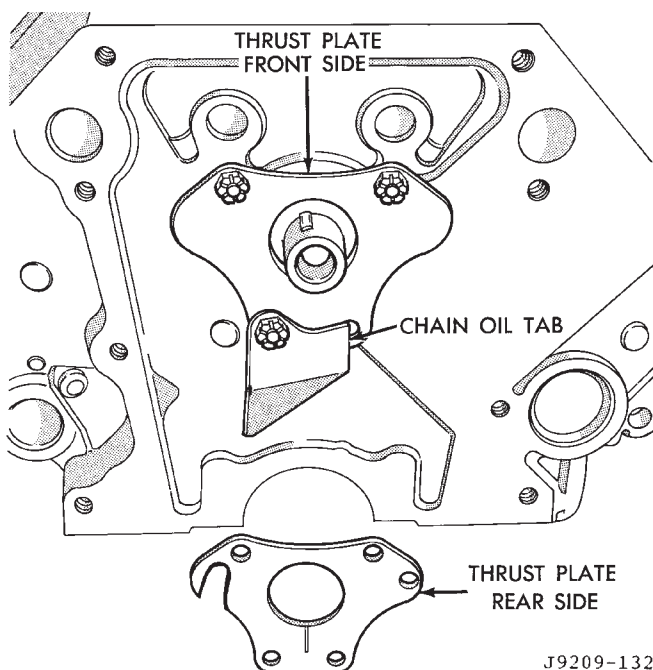

Fig. 33 Timing Chain Oil Tab Installation
- (1) Remove intake manifold.
- (2) Remove cylinder head covers.
- (3) Remove timing case cover and timing chain.
- (4) Remove rocker arms.
- (5) Remove push rods and tappets. Identify each part so it can be installed in its original location.
- (6) Remove distributor and lift out the oil pump and distributor drive shaft.
- (7) Remove camshaft thrust plate, note location of oil tab (Fig. 33).
- (8) Install a long bolt into front of camshaft to facilitate removal of the camshaft. Remove camshaft, being careful not to damage cam bearings with the cam lobes.